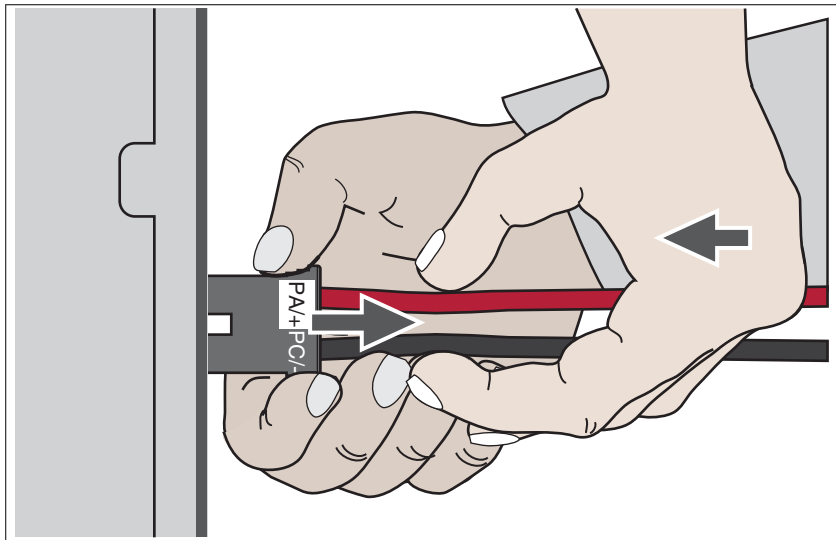

Figure 17: Unlocking the DC bus connector, step 2: Push cables towards connector, at the same time remove the connector with the other hand.
- ▶ While pushing the wires towards the connector, pull the connector at the connector housing with the other hand. The connector is unlocked and you can remove the DC bus connection cable (see). The connector is unlocked and you can remove the DC bus connection cable (see Figure 17).